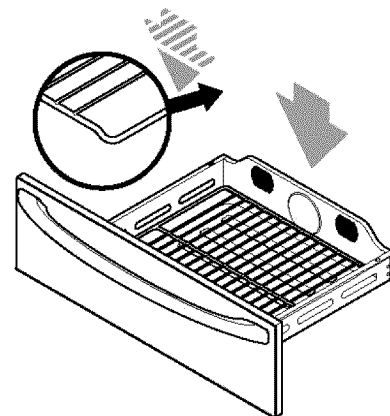

Fig. 1
- The warmer oven rack **must always be in place when warming.** Be sure that the rack is placed with the down turned sides into the drawer-*Fig. 1*. This will provide for some air space between the drawer and the food.